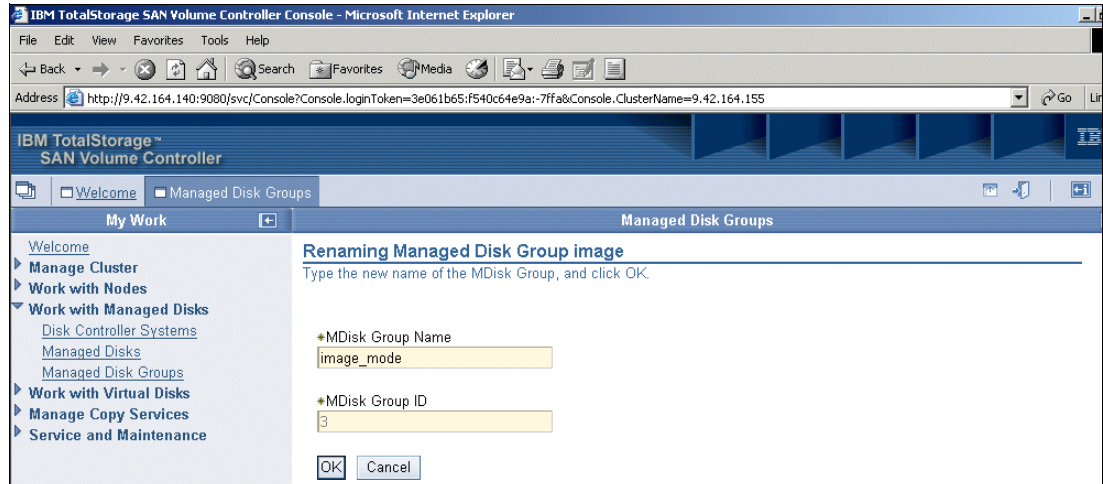

Figure 9-44 Renaming a MDG
2. From the Renaming MDG *MDGname* panel (where *MDGname* is the MDG you selected in the previous step), type the new name you want to assign and click **OK**. See Figure 9-44.